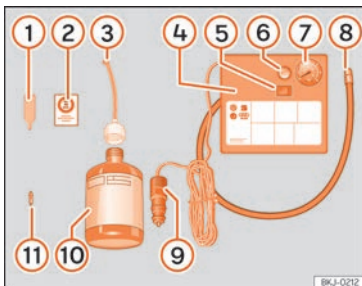

Fig. 194 Standard display: contents of the anti-puncture kit.
The anti-puncture kit is located underneath the floor covering in the luggage compartment. Includes the following components >>> Fig. 194:
- Unscrew the tyre valve cap and insert. Use the device >>> Fig. 194 ① to remove the valve cap. Place it on a clean surface.
- Shake the tyre sealant bottle vigorously >>> Fig. 194 ⑩.
- Screw the tyre inflation hose >>> Fig. 194 ③ into the tyre sealant bottle. The bottle's seal will break automatically.
- Remove the filler cap >>> Fig. 194 ③ and screw the open end of the tube into the tyre valve.
- Replace the howitzer with the device >>> Fig. 194 ① onto the tyre valve.
- Screw the tyre inflation tube of the compressor >>> Fig. 194 ⑧ on the tyre valve.
- Check that the air evacuation screw is closed >>> Fig. 194 ⑥.
- Attach the connector >>> Fig. 194 ⑨ to the vehicle's 12 volt power outlet >>> page 174.
- Switch on the air compressor with ON/OFF switch >>> Fig. 194 ⑤.
- Attach the sticker >>> Fig. 194 (2) to the instrument panel display, within the driver's field of vision.
Screw in the inflator tube >>> Fig. 194 (8) again and check the pressure on the gauge (7).